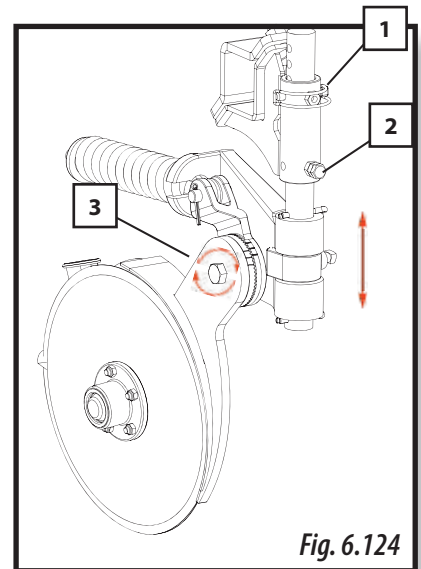

Fig. 6.124
- 1- Remove the pin (1, Fig. 6.124)
- 2- Loosen the screw (2, Fig. 6.124)
- 4- Place the pin in the desired hole to fix the position (1, Fig. 6.124)
- 5- Finally, lock the rod using the screw and the lock nut (2, Fig. 6.124).
- 1- Loosen the discs' fixing screw (3, Fig. 6.124)
- 3- Tighten the fixing screw (3, Fig. 6.124).